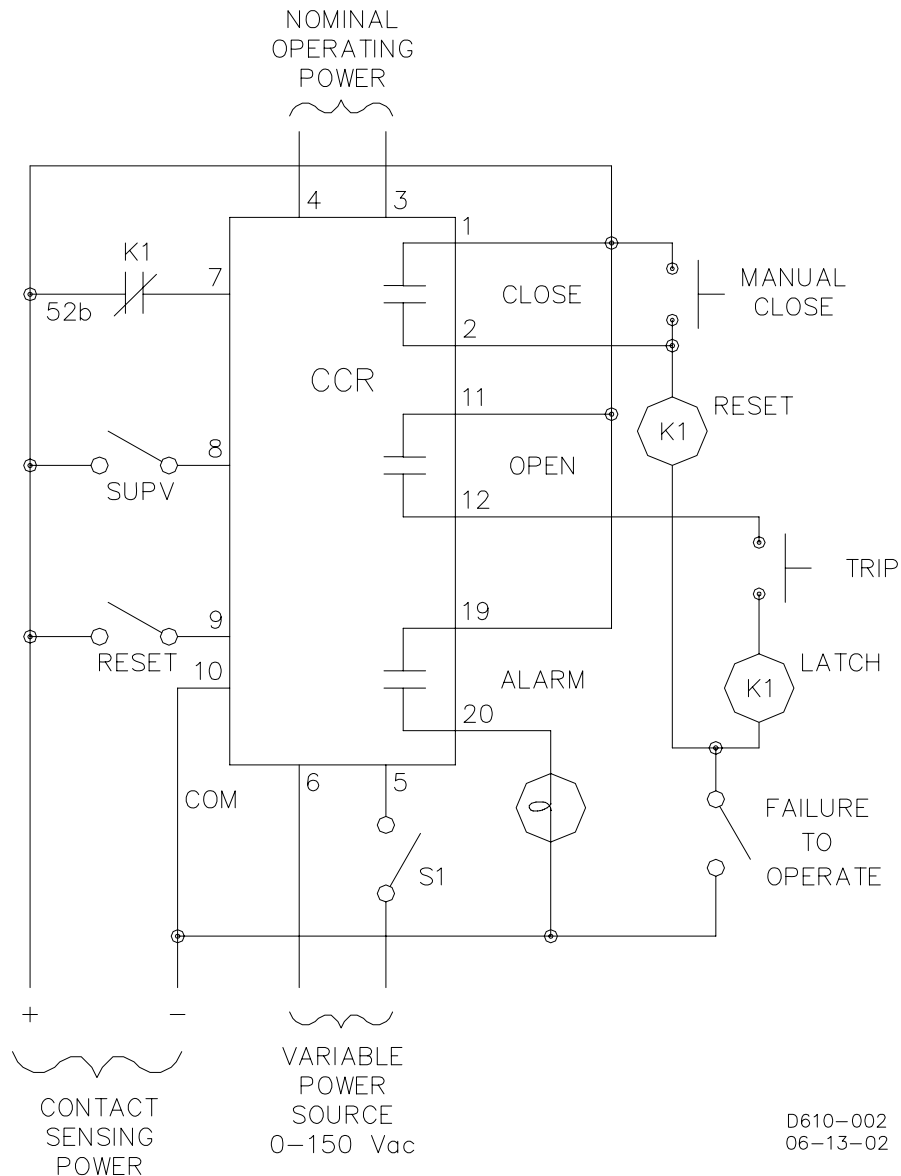

Figure 4-1. Calibration/Test Circuit
1. Connect the variable power source, latching relay, and switches as shown in Figure 4-1.